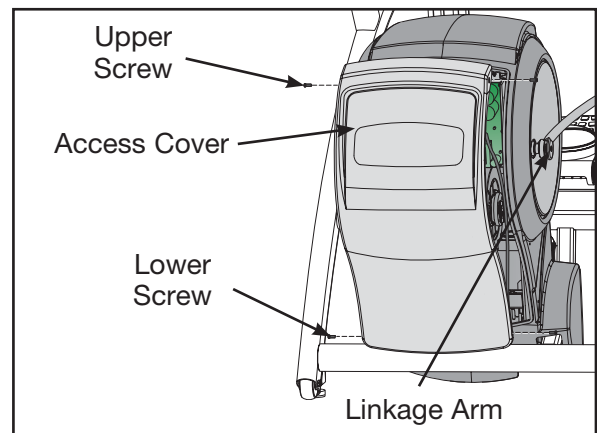

Figure 2
A. Using a Phillips screwdriver, remove the two lower screws (one screw on each side), securing the access cover. See Figure 2.